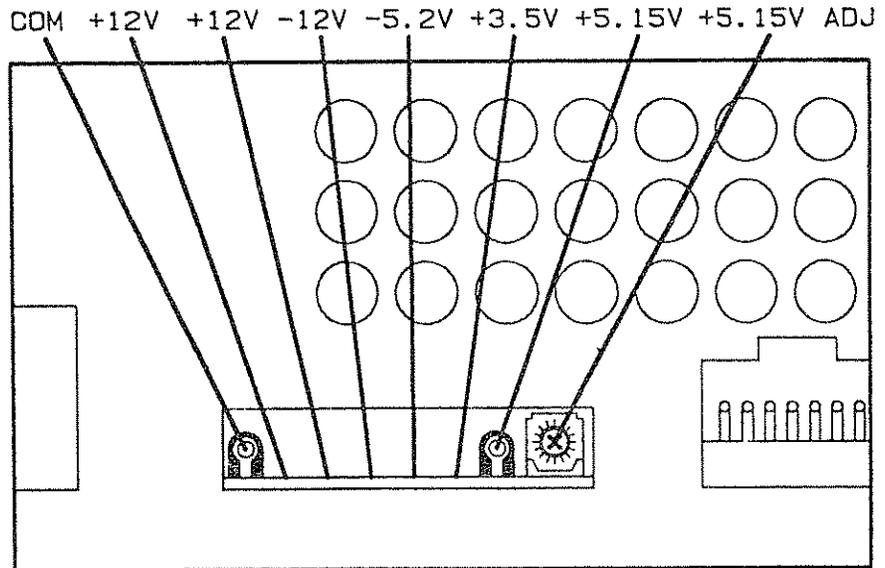

Figure 2-26. A5 Power Supply Test Points
9. Check the +5 volt supply on the A5 Power Supply next to where W27 connects to the supply. See figure 2-26. If +5 volts is present, continue with the next step. If +5 volts is not present, continue with step 12.